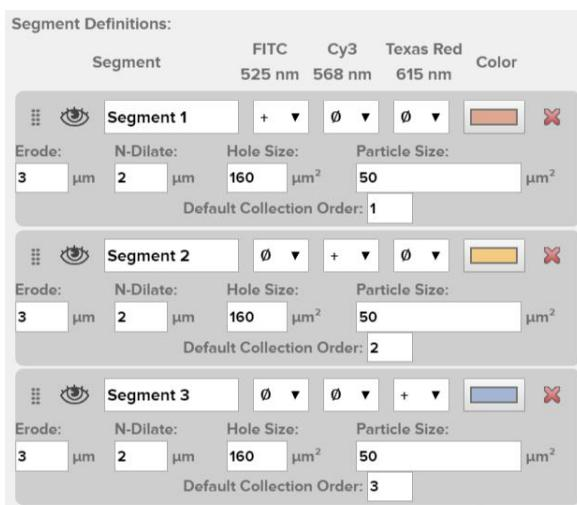

Figure 33: Segment definitions
3. For each Segment Definition box (see Figure 33), choose the **Segment Name** (to be used across all applicable ROIs). Do not use special characters like ‘\ / \* : < > | “ .? in the ROI or segment names and do not begin/end with a space. This segment name will transfer as a **tag** in the Data Analysis stage. See the GeoMx DSP Data Analysis User Manual MAN-10154).
4. **Channel designations**: For each segment definition box, choose whether each **fluorescence channel** (FITC, Cy3, Texas Red, Cy5) should be included (+), excluded (-), or ignored (Ø) as part of the segment rule's definition (see Figure 33).